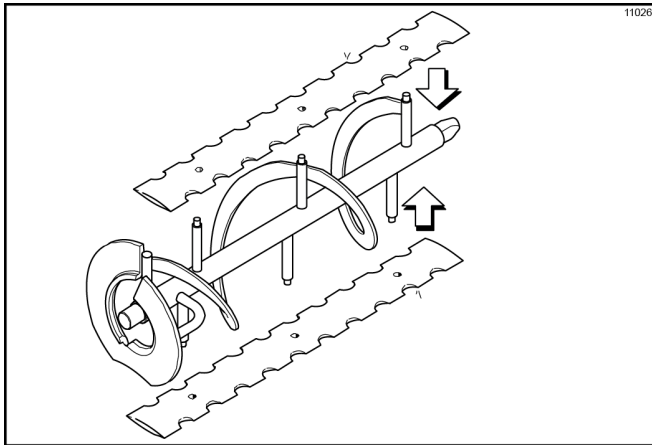

Figure-113
- If the blades are in good condition, place each scraper blade over the holding pins on the beater assembly. (See Figure-113.)